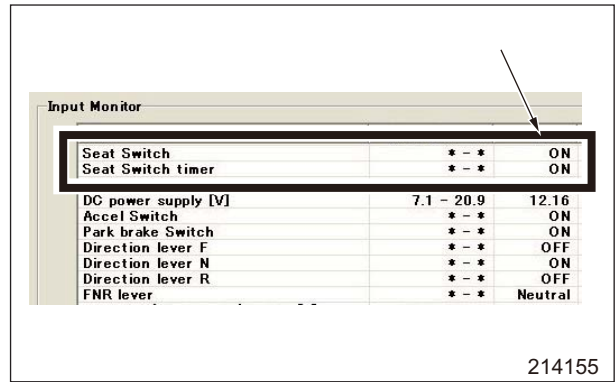

Fig. 4-1 Input monitor screen
- (1) Connect the service tool to the VCM1-M controller.
- (2) Turn the key switch to the ON position and start the engine. (Leave the parking brake engaged.)
- (3) Display the input monitor screen of the service tool.
- (4) Sit on the operator's seat and make sure that the seat switch and the seat switch timer are ON on the input monitor screen. (Fig. 4-1)